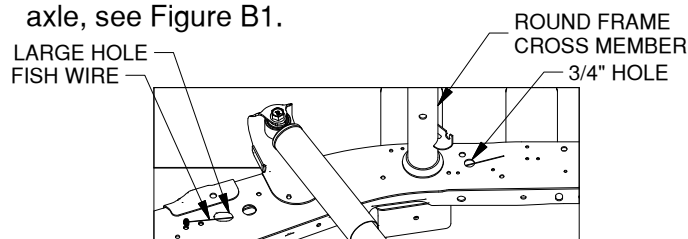

Figure B1: Looking at inside of frame rail.
1. **Prepare for mounting bracket installation.** Locate the rear cross member mounting brackets, two fish wires, the locking straps, the 1/2" x 1-1/2" carriage bolts, the O-rings, two 1/2" lock washers, and two 1/2" finish nuts. Identify the 3/4" hole on the inside of the frame rails behind the rear axle where the brackets will mount, and the larger hole in the frame ahead of the axle, see Figure B1.